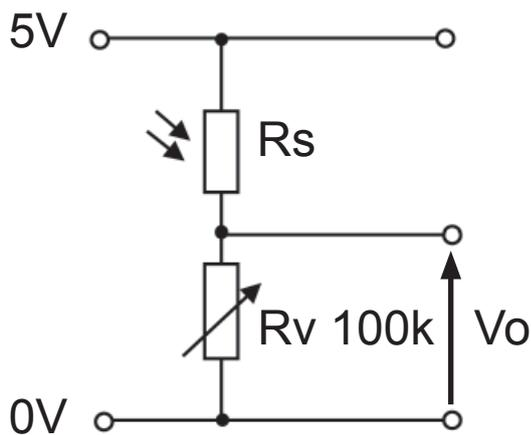
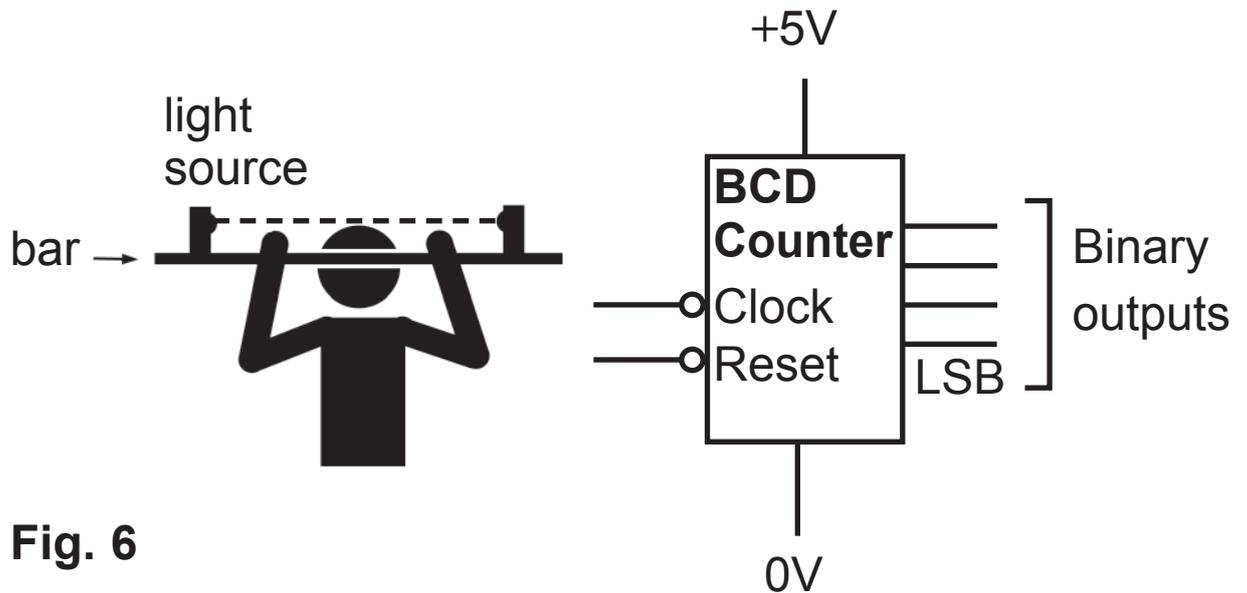
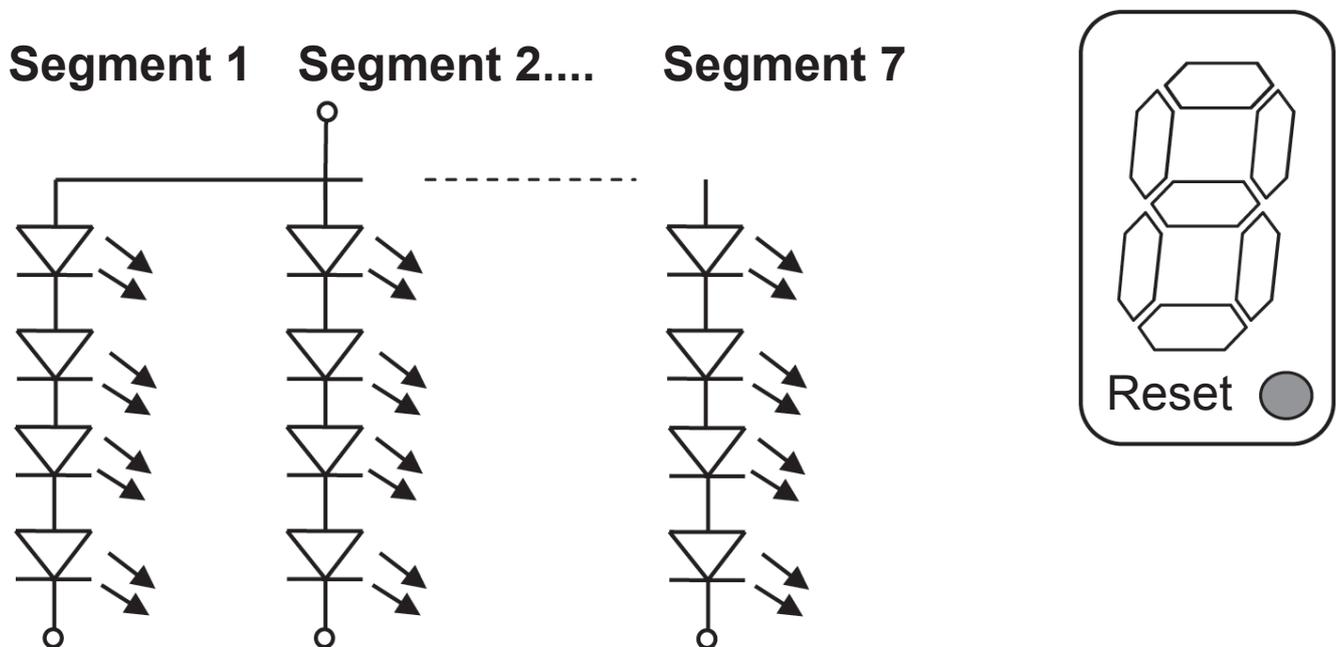

Fig. 5
Fig. 6
Fig. 7
2 A voltage divider circuit is shown in **Fig. 5**.
(a) (i) R_s in **Fig. 5** is an LDR. State how its resistance varies with light. [1 mark]
(ii) Calculate the value for V_o in **Fig. 5** if R_v is set to its mid position and the resistance of R_s is $60\text{ k}\Omega$. [2 marks]
(b) A student has designed a system for counting the number of pull-ups achieved by people in a gym. It consists of a housed light source (bulb) mounted on a bar and directed at the component R_s in the voltage divider from **Fig. 5** which is also housed and mounted on the bar. **Fig. 6** shows how the system is arranged. Each time the light beam from the bulb is broken a pull-up should be detected. The number of pull-ups will be counted using a BCD counter also shown in **Fig. 6**. opposite.
- (i) The reset for the BCD counter shown in **Fig. 6** is normally held at a high voltage and needs to be pulled momentarily low in order to reset the counter. Draw a circuit diagram to show how to achieve this, assuming the counter has a 5 volt power supply. [2 marks]
- (ii) During initial testing it was found that the voltage divider output V_o shown in **Fig. 5** did not provide a sufficient voltage range to operate the clock input on the BCD counter. It was suggested that a transistor could be utilised to provide an effective high to low voltage range using V_o from the voltage divider. Using an annotated diagram explain how a transistor based circuit could be used to provide a sufficient voltage range to operate a counter clock input. [4 marks]
- (c) The number of pull-ups is to be displayed on a large seven segment display as shown in **Fig. 7**. A circuit diagram showing the arrangement of LEDs within each segment is also shown. The forward voltage of each LED is 1.8 volts and when a segment is illuminated the current in each LED is 15 mA.
- (i) Suggest **one** practical reason why four LEDs are arranged as shown in **Fig. 7** for each segment of the seven segment display. [1 mark]
- (ii) State if the LED display shown in **Fig. 7** is connected in common anode or common cathode mode and briefly justify your answer. [2 marks]
- (iii) Calculate the value for a protective resistor required for one segment of the display shown in **Fig. 7** if the power supply to the display is 9 volts. [2 marks]
- (iv) Calculate the total power dissipated by the seven segment display shown in **Fig. 7** when the number zero is displayed (assume a current of 15 mA in each LED). [2 marks]
- (v) Using a circuit diagram show how the binary outputs from the BCD counter shown in **Fig. 6** can be used to light the seven segment display shown in **Fig. 7** to enable up to nine pull-ups to be counted and displayed. Label any additional components required. [5 marks]